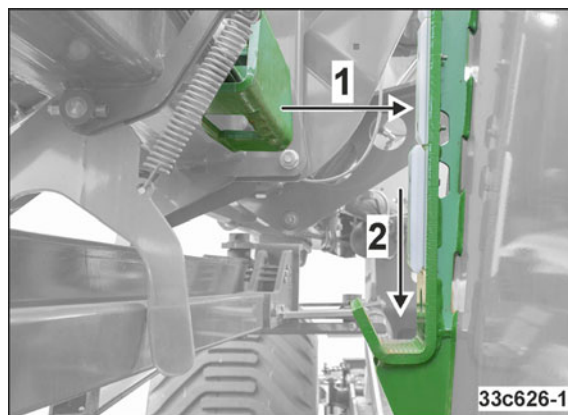

Fig. 232
- o the implement sections (Fig. 232/1) are resting on the skids (Fig. 232/2) of the lock hooks.